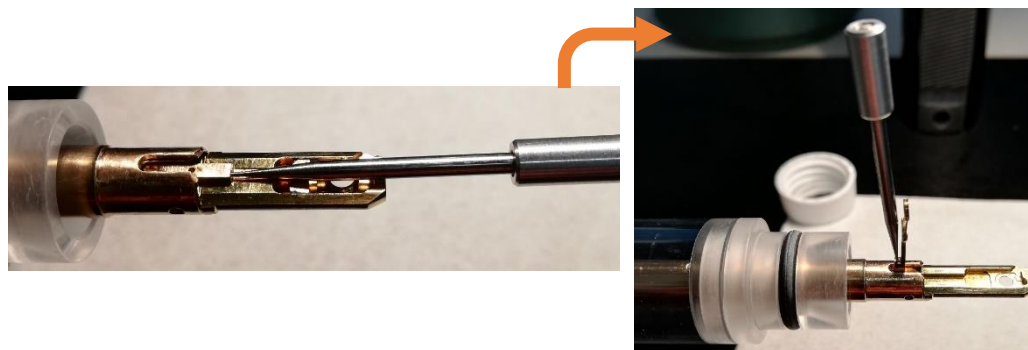

Figure 20 Procedure for the raise of the holder clamp for inserting a TEM grid
5.1.3 Remove the cap at the end of the plastic cover. Use one hand to prevent the holder from slipping out of the stand, insert the loading tool into the hole in the specimen (See Figure 20) clamp and gently raise the clamp straight up until it stops. **Never use tweezers.**